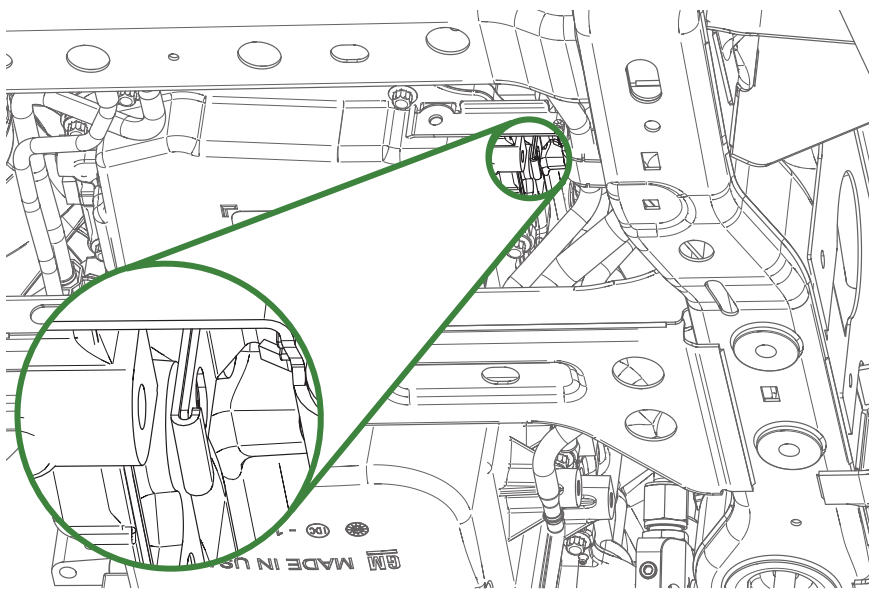

Figure 8 - Removing the Flange Nut from the Hose Clamp
4. Locate the clamp holding the hard line to the oil pan and remove the flange nut with a 10 mm tool, circled **green** in Figure 8.